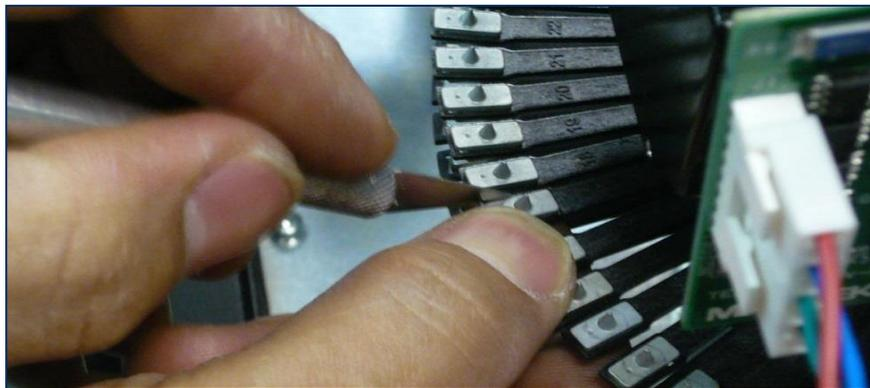

Figure 3-7 - Removing a Character from the Embosser Module Daisy Wheel
- 1) Insert an X-Acto knife between the tine and the character as shown in **Figure 3-7**.